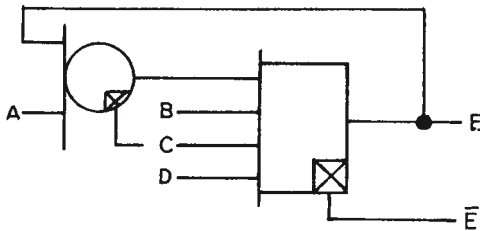

Fig 1. Sealed AND equivalent logic circuit.
4. The NL-353L consists of an AND gate requiring that all inputs be at logic 1 to establish a logic 1 at the output. Input A consists of a 2-input OR gate (Fig. 1). Once the AND gate is activated, the logic 1 at A may be removed. Removal of logic 1 from B, C or D inputs will disqualify the output at E.